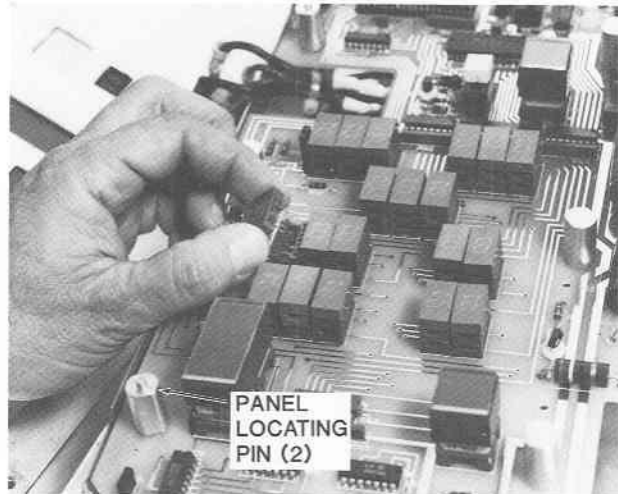

Figure 5.9. Extracting Seven-Segment Display Digit.
- e) Carefully extract the malfunctioning display digit from its pin sockets as shown in Figure 5.9.